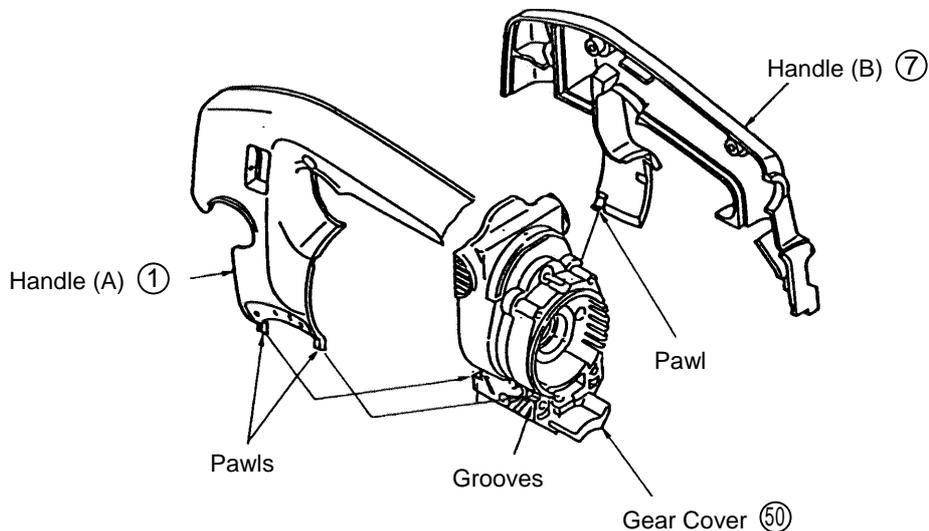

Fig. 19
- (8) Install Handle (A) (1) and Handle (B) (7) so that their pawls (two on Handle (A) , one on Handle (B)) are properly inserted into the grooves provided on the Gear Cover (50). (See Fig. 19)